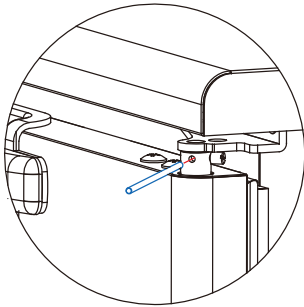

Fig 9-27
1. Remove Front Cover Grill and Shaft Cap. Insert one steel stick into the shaft hole. (Fig 9-27)